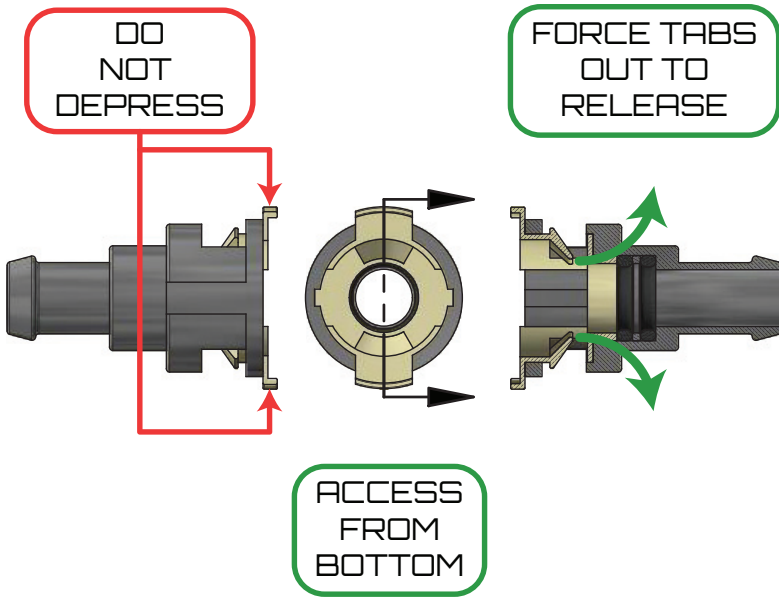

Figure 1 - Releasing the Quick Connect Fittings
6. If necessary, refer to Figure 1 to release and pull-off each quick connect fitting from the factory oil cooler and lower radiator hose.